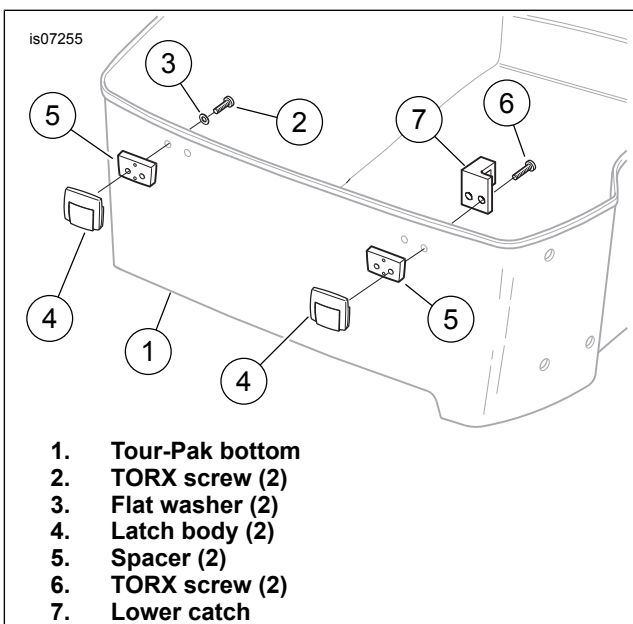

Figure 3. Tour-Pak Bottom Modification for Premium Latch
1. See Figure 3. Remove two TORX® screws (2) and flat washers (3) to release the rear latch (4) and spacer (5) from the right side of the Tour-Pak bottom (1).
- Get a lower Tour-Pak latch assembly (3), two #8-32 x 16 mm ($\frac{5}{8}$ in) long pan head screws (9) and two #10 (5 mm) flat washers (8) from the kit.
- Get the remaining lower Tour-Pak latch assembly and two #8-32 x 19 mm ($\frac{3}{4}$ in) long pan head screws (10) from the kit, and the lower catch (see Figure 3, item 7) removed earlier.
- Carefully open the lid by depressing the release buttons (D) on both front and rear latches simultaneously. The lid should be pushed open slightly by the spring caps (E).
- Close the lid again to confirm alignment and smooth operation. The lid is properly latched when the release buttons (D) pop out.